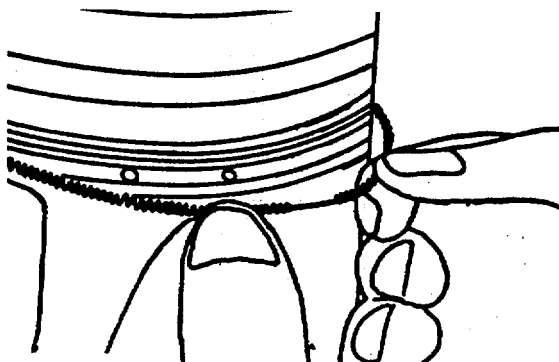

FIGURE 4-50. Positioning Oil Ring Expander.
- (1) Position the oil ring expander in the control ring groove as shown in FIGURE 4-50.